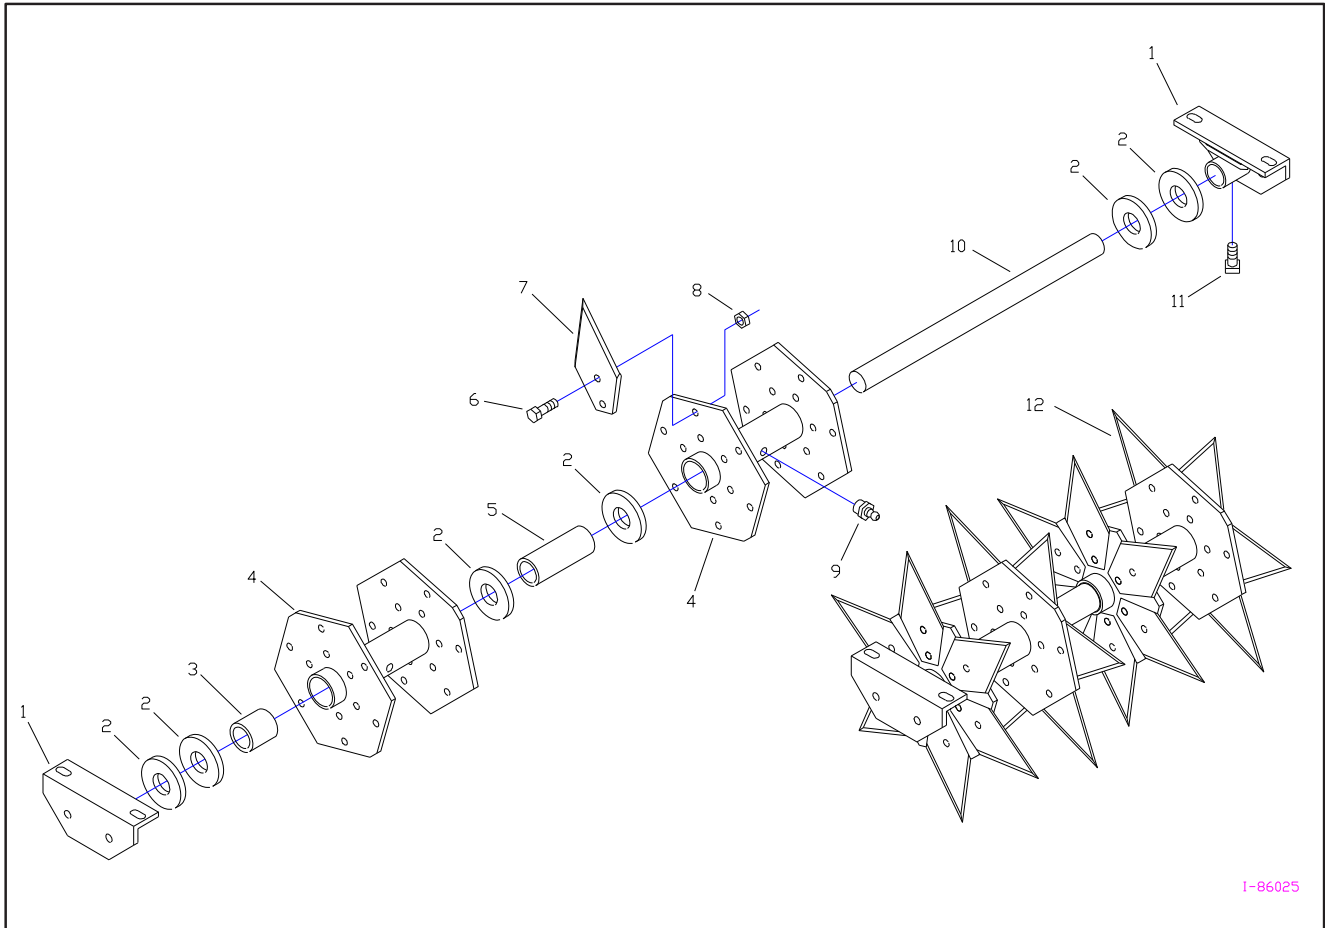

Figure A2 - Commercial Aerator Slicing Blades Parts Detail
**NOTE:** Coring spoons are supplied as standard. Slicing blades (Figure A2) may be ordered as an option.